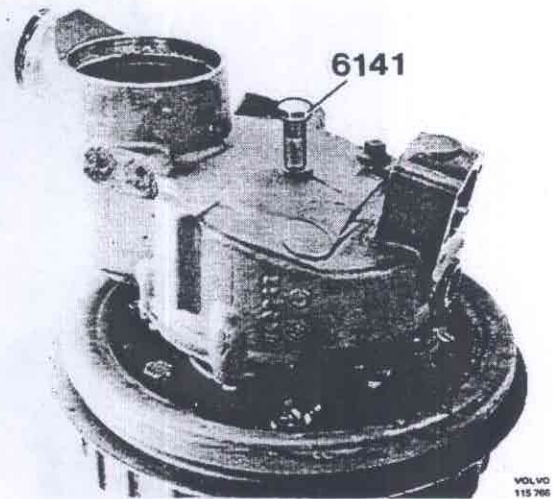

Fig. 46-121. Pressing housing apart
5. Remove the nuts securing the wheel hub housing to the wheel carrier housing. Remove the plug on the wheel carrier housing. Fit and pull in the dismantling bolt 6141, Fig. 46-121. Remove the hub when it loosens from the wheel carrier. Remove the bolt 6141.